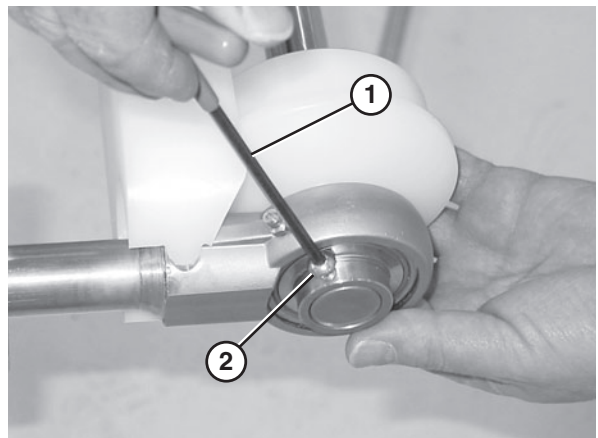

Figure 87
- Use a hex wrench (Figure 87, item 1) to tighten the bearing shaft fasteners (Figure 87, item 2).